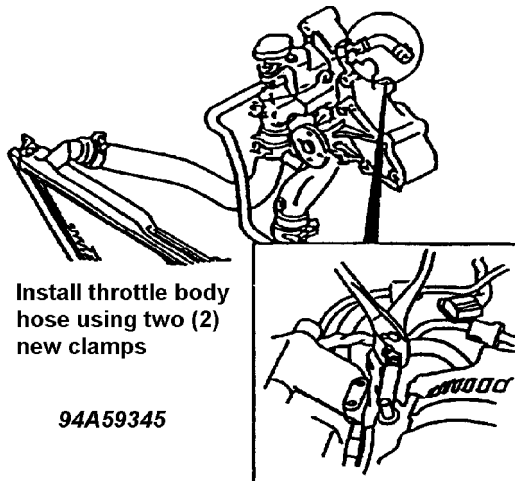

Fig. 47: Installing Throttle Body Hose (N3A1-13-692A)
6. Replace the front throttle body water hose with a new one and attach it with two new hose clamps. See Fig. 47.